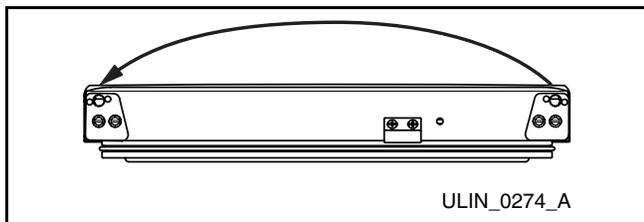

Figure 11
7. With bottom of door facing up, remove pivot plate (2 screws), flip over, and remount on opposite side of door (**Figure 11**). Be sure angled side of plate faces center.